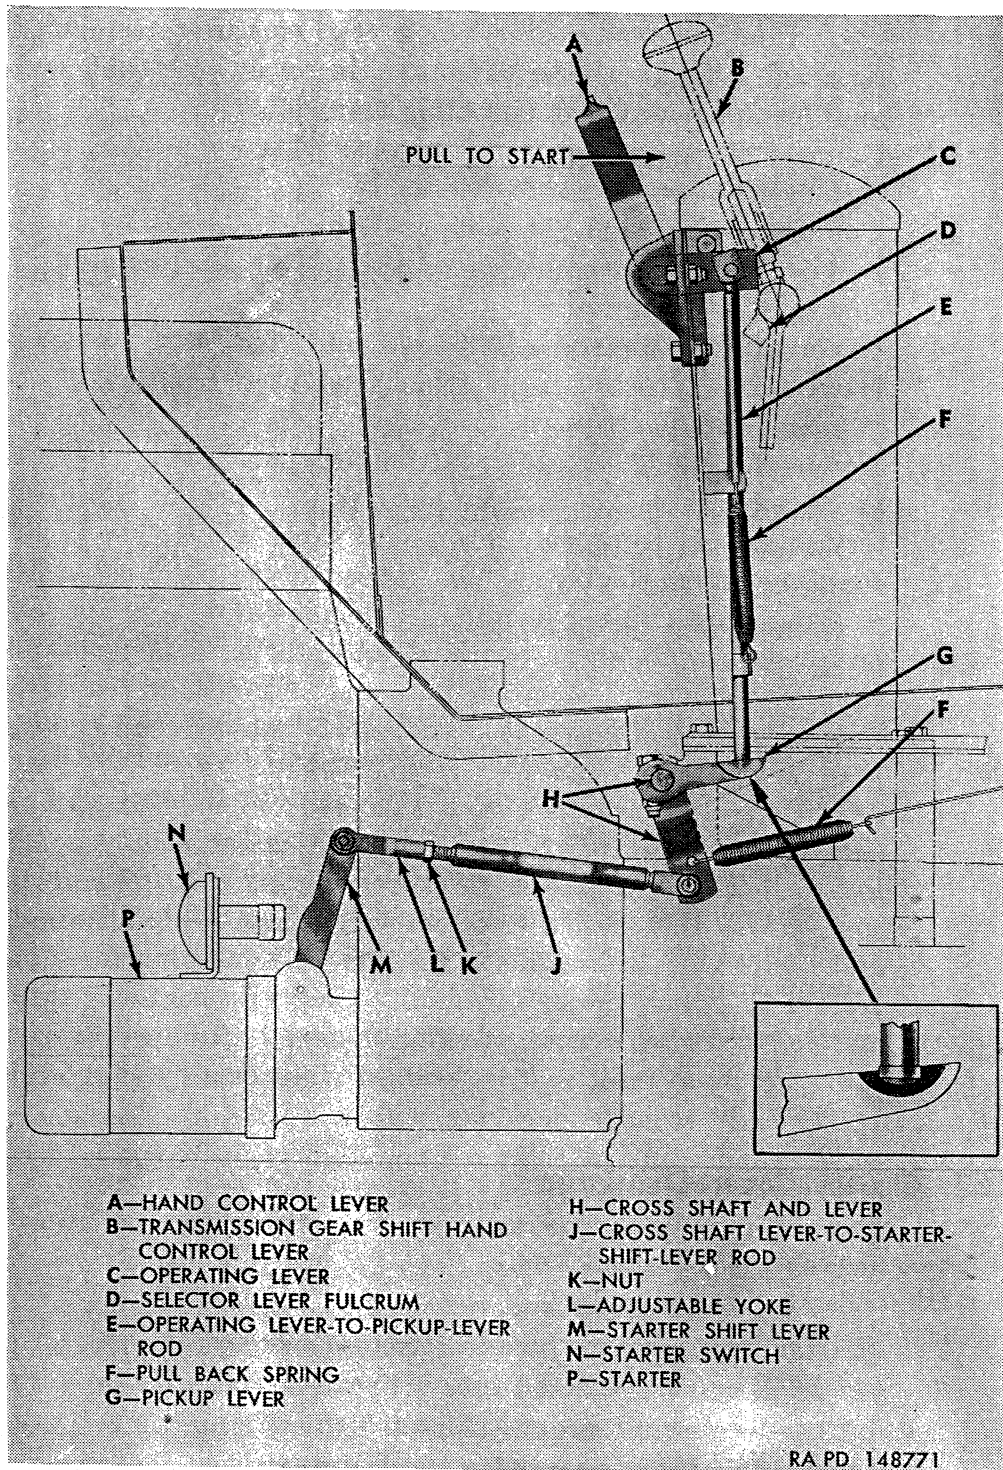

Figure 147. Starter control linkage.
*c. Starter Control Linkage* (fig. 147). Starter hand control lever and shaft is mounted on right side of transmission control tower. Starter control operating lever is attached to end of hand control lever shaft. Operating-lever-to-pickup-lever rod, attached to operating lever, extends down to cross-shaft pickup lever. Cross-shaft, extending across to right side of transmission, has a cross-shaft lever attached to right end. A rod with adjustable yoke connects cross-shaft lever to starter shift lever. Starter linkage can be operated only when transmission control lever is in N (neutral) position. With transmission control lever in any of the driving positions, a cam on selector lever fulcrum acts as a stop for starter control operating lever. This prevents starting engine with transmission control lever in operating position. Arrow on starter hand control level indicates direction (rearward) in which lever must be moved to operate starter. Initial movement of linkage shifts starter pinion into engagement with flywheel ring gear teeth. Additional movement of linkage causes starter shift lever to contact starter switch plunger and close the switch contacts, completing electrical circuit to starter.
*Note.* The key letters noted in parentheses are in figure 147, except where otherwise indicated.